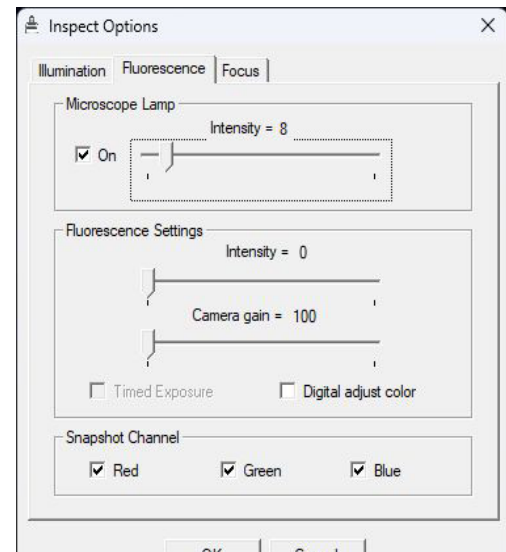

Figure 13
- b. Set the **Fluorescence Lamp** Intensity to 100% (see Figure 13).
- c. Set the Camera Gain to the maximum setting (see Figure 13).
- a. Adjust the Camera Gain (see Figure 13) to the lowest possible value that still allows sufficient signal. (Higher values increase image pixelation.)
- c. If the live image displays with very bright fluorescence intensity, lower the fluorescence lamp intensity (see Figure 13)
1. Set Camera Gain (see Figure 13) for optimal fluorescence image.
2. Adjust the Microscope Lamp Intensity (see Figure 13). A good starting point for the Microscope Lamp Intensity setting is 30. Adjust from this point to get enough light.
- Use the Gain setting next to Timed Exposure (see Figure 13) only with the Timed Exposure feature. Adjusting this setting outside of Timed Exposure does not result in a change.